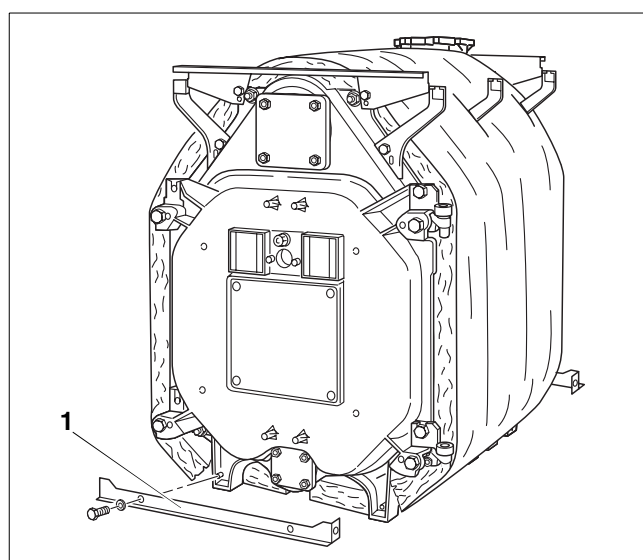

Fig. 42 Assembly - Fitting bottom cross-members
- Bolt the lower front cross-member (Fig. 42, ref. 1) and lower rear cross-member to the respective pairs of feet on the boiler sections with two hex-head bolts for each foot. The horizontal limbs of these cross-members point away from the boiler.